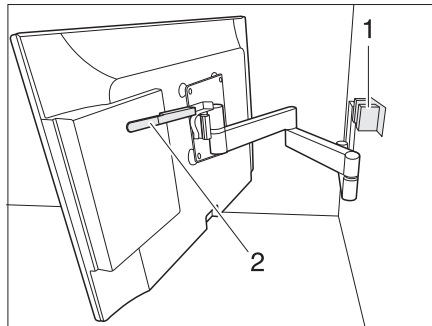

Fig. 57 Holder with jointed arm
- Press the lever (Fig. 57,2) downwards to release the flat screen from the latch (Fig. 57,1). Release the lever.